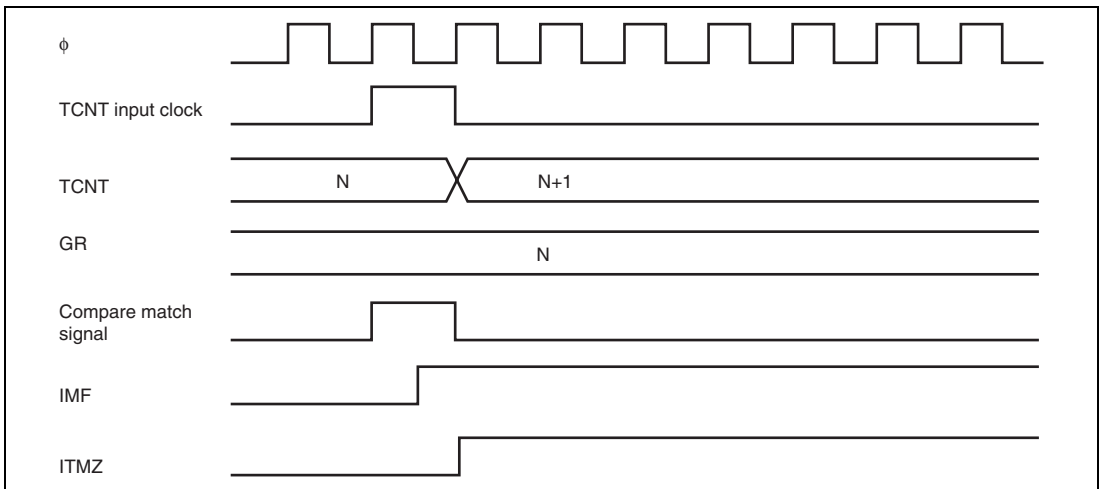

Figure 12.48 IMF Flag Set Timing when Compare Match Occurs
1. **IMF Flag Set Timing:** The IMF flag is set to 1 by the compare match signal that is generated when the GR matches with the TCNT. The compare match signal is generated at the last state of matching (timing to update the counter value when the GR and TCNT match). Therefore, when the TCNT and GR matches, the compare match signal will not be generated until the TCNT input clock is generated. Figure 12.48 shows the timing to set the IMF flag.